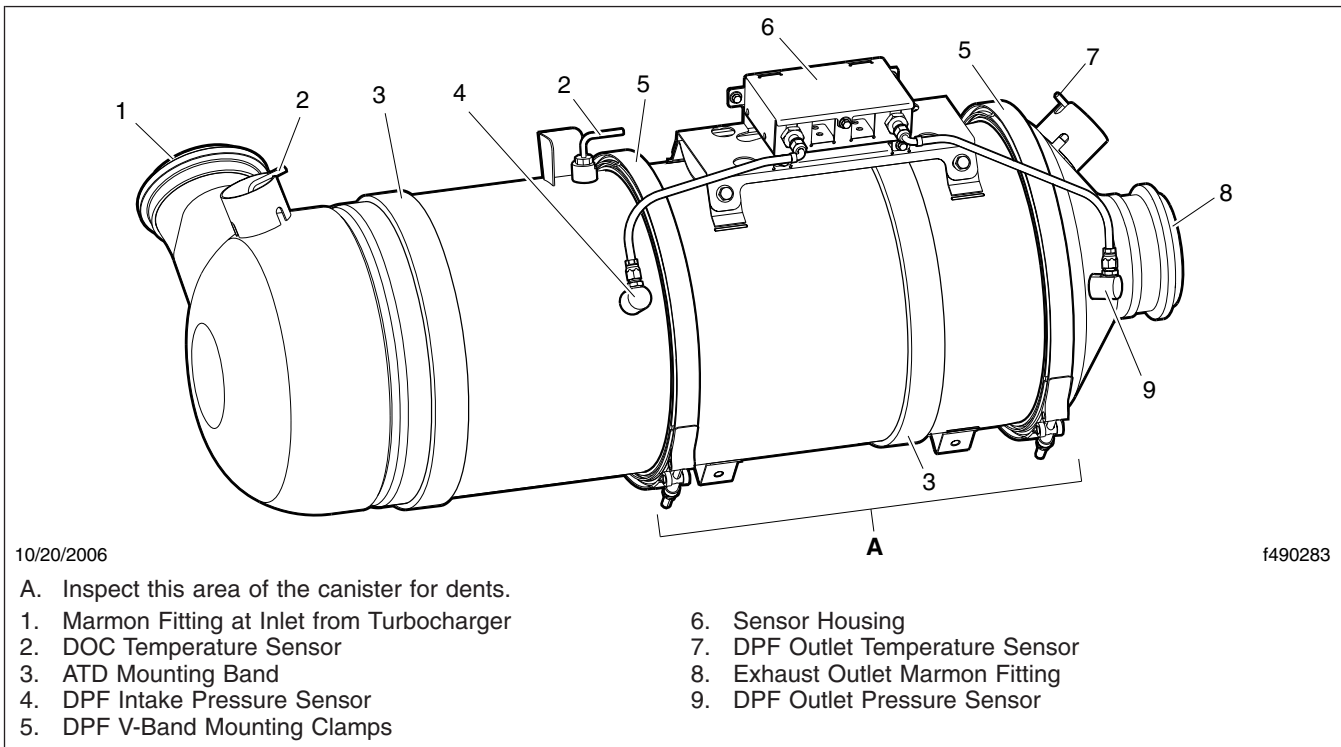

Fig. 4, Typical Aftertreatment Device
IMPORTANT: The aftertreatment device (ATD), which is part of the aftertreatment system (ATS), requires special attention during regularly scheduled maintenance inspections; see Fig. 4. No leaks are allowed anywhere in the system. If any discrepancies are discovered, refer to the engine manufacturer's service literature for repair instructions.
7. Check the DPF exterior surface for dents or other damage. See Item A of Fig. 4. A dent over 3 inches (76 mm) in diameter and 1/4-inch (6-mm) deep could cause internal damage to the DPF, causing it to malfunction.